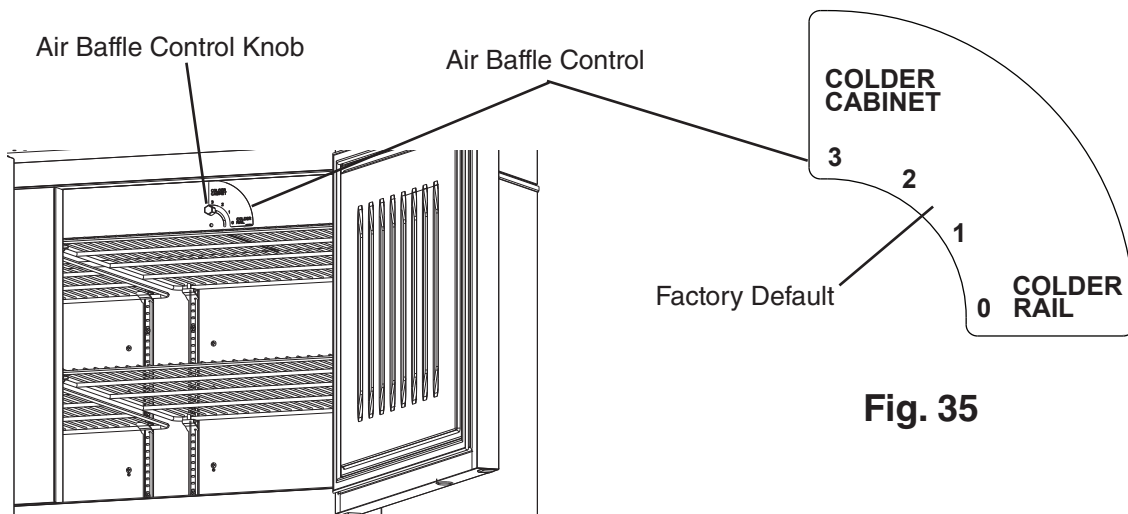

Fig. 35
- 2) To adjust the air flow balance between the rail and cabinet, slightly unscrew the air baffle control knob located inside the cabinet. See Fig. 35. Move the air baffle control clockwise to direct more air flow to the rail or counter-clockwise to direct more air flow to the cabinet. Once the desired position of the air baffle is attained, re-tighten the air baffle control knob to prevent inadvertent movement of the baffle during operation of the appliance.